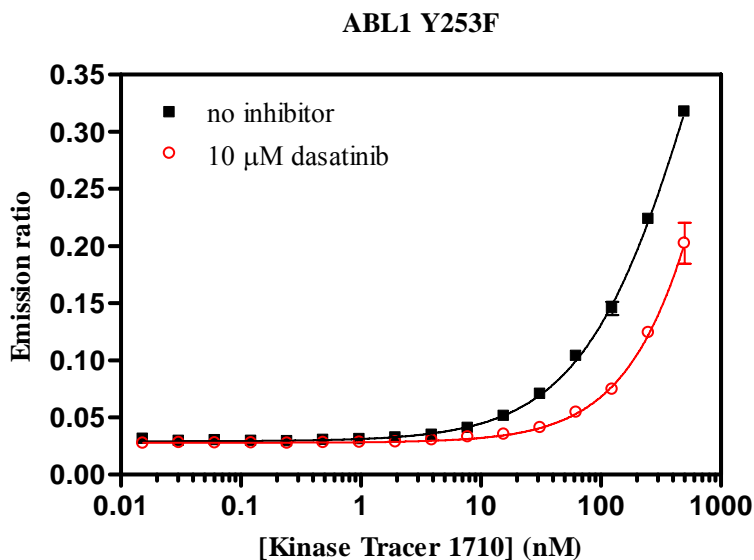

Figure 4. Tracer titration curve.
2. Plot [tracer] versus emission ratio for the competitor (dasatinib) and control (DMSO only) (Figure 4). The sigmoidal dose-response curve with a variable slope can be fit to the data (optional). The following equation can be used with GraphPad™ Prism software: